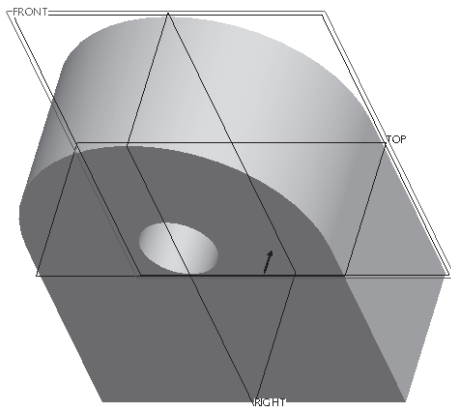

Figure 4-59 Arrow showing the direction of viewing the sketching plane
- Create the second extrude feature that is at the bottom of the base feature, refer to Figures 4-59 through 4-62.
3. Choose the **Use Previous** button from the **Sketch Plane** area in the **Sketch** dialog box. The yellow arrow is displayed in the drawing area, as shown in Figure 4-59.
In Figure 4-59, the model is oriented in its default orientation. The model can be oriented in its default position by choosing the **Default** option from the **Saved view list** button.